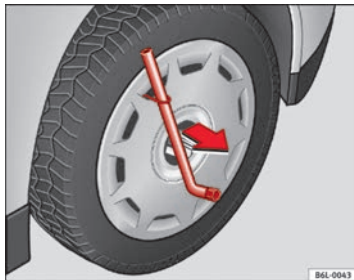

Fig. 144 Remove the complete hub cap
- Remove the wheel cover using the wire hook ⇒ Fig. 144.